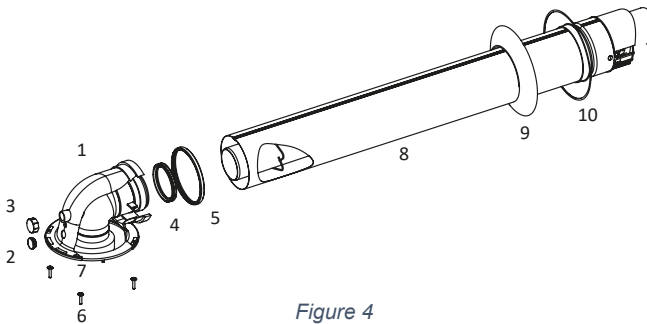

Figure 4
-The hermetic chimney set is delivered in a cardboard box separate from the device. The standard hermetic flue set (Ø60/100) consists of the following parts (Figure 4).